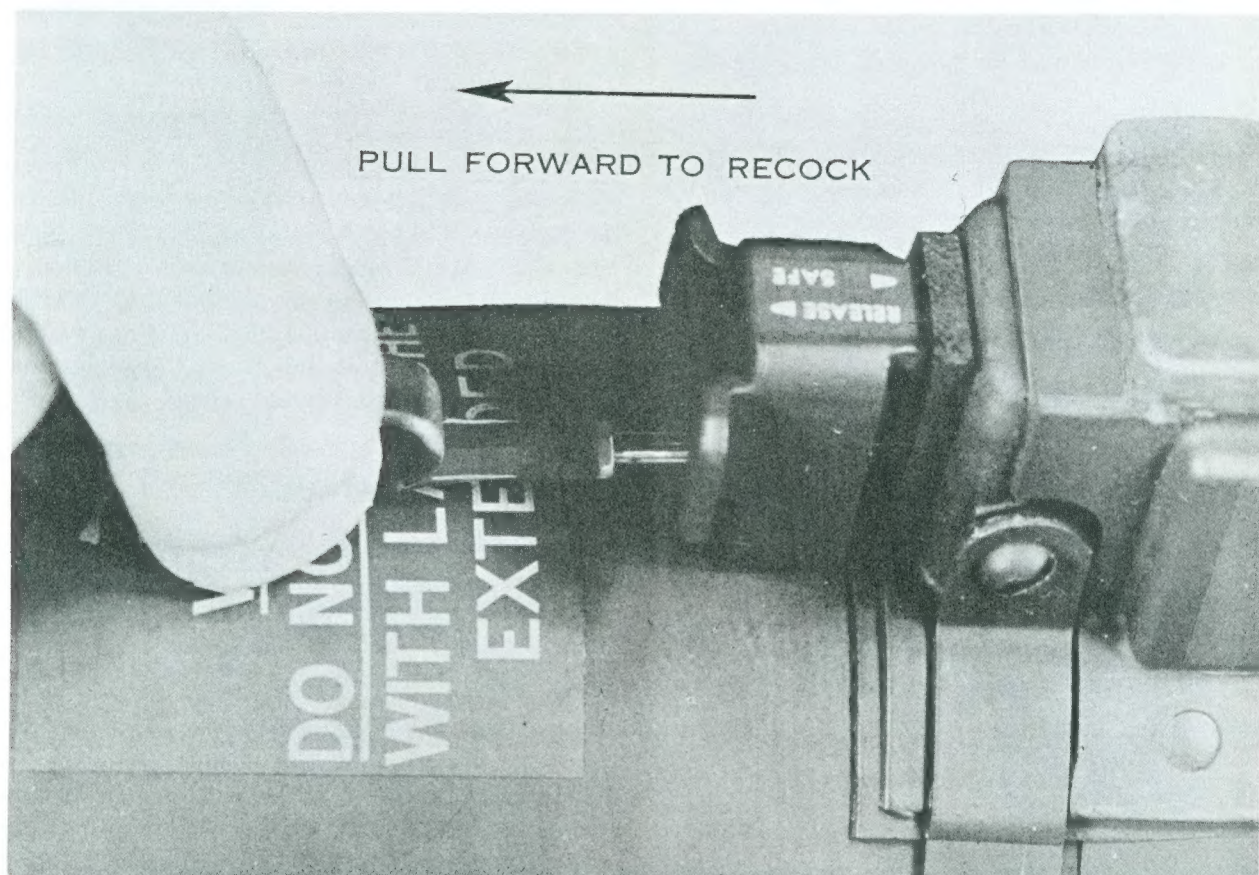

Figure 6. Recocking the M72.
b. The recocking latch is used only when the launcher has failed to fire. The latch should not be actuated until the following precautions have been taken: the launcher should be retained on the gunner's shoulder for ten seconds; at the completion of the waiting period reset the trigger safety and remove the launcher from the shoulder; the safety pin must be replaced and an additional 60-second waiting period observed; the launcher is then partially collapsed. The gunner will then pull the recocking latch forward until a distinct click is heard (fig. 6), then the launcher is placed into the firing position again.